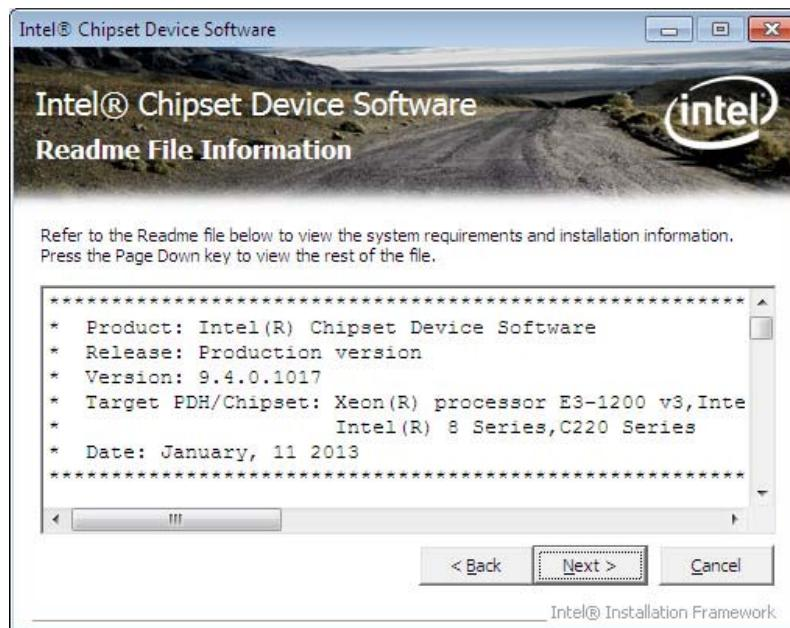

Figure 6-3: Chipset Driver Welcome Screen
Step 4: When the setup files are completely extracted, the **Welcome Screen** in **Figure 6-3** appears.